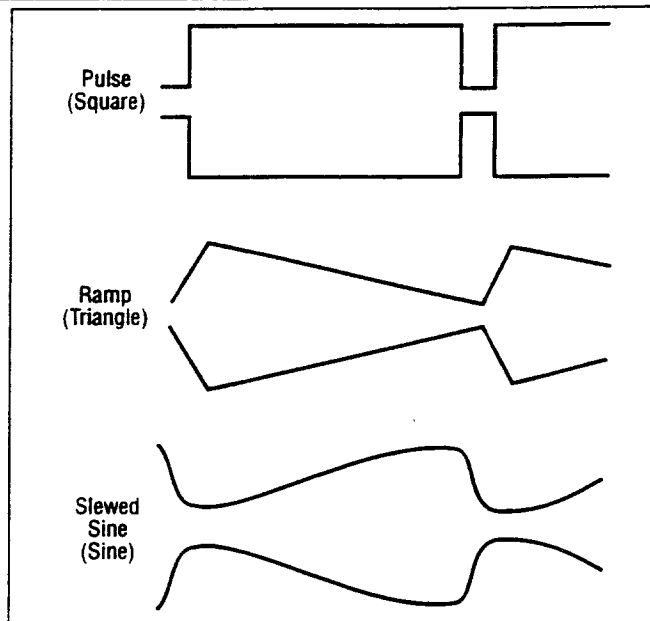

Figure 4. Effects of Symmetry Variation.
The **DUTY CYCLE** control can be used to alter the symmetry of the output waveform, to produce waveshapes such as those shown in Fig. 4. For a square wave, symmetry variation amounts to changing the duty cycle (ratio of "high" to "low" time), effectively converting the instrument into a pulse generator. For a triangle wave, the result is a ramp, and with a sine wave, a distorted waveshape called a slewed sine is produced. The Model 4017 provides for symmetry variation from 15% to 85%.
- Engage the **DUTY CYCLE** switch (17) and adjust the **DUTY CYCLE** control (10) for the desired waveshape. Clockwise rotation from center results in an increase in square wave duty cycle, and changes the sine and triangle waves as shown in the top waveform of each pair of Fig. 4. Counter-clockwise rotation results in the bottom waveform in each pair.